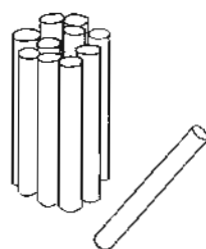

Figure 1-3. Test tubes.
(1) An initial manufacturer sample quantity (1 box of 12) of test tubes (fig 1-3) is provided for use.
(2) Optional accessories such as rotor assembly liners and specialized test tubes are not initially provided with the centrifuge.